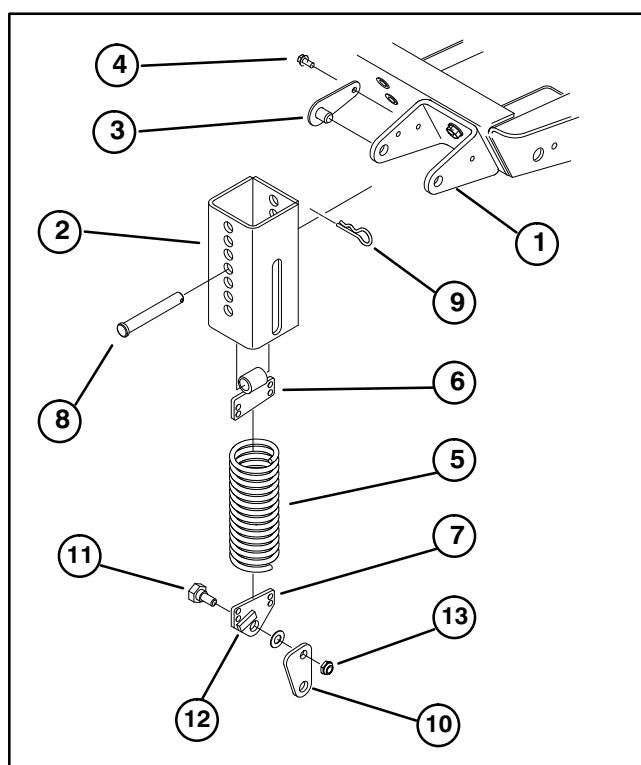

Figure 10
4. Thread the top extension spring coil into the top spring end holes and the bottom extension spring coil into the bottom spring end holes (Fig. 10).
5. Mount knee link to lower spring end with wide part of knee link pointing forward and spring end stop pointing forward. Secure knee link to outer side of spring end with a shoulder bolt, washer and locknut (Fig. 10, 11).
7. Align slotted holes in the spring cover (slot toward the bottom) with the mounting bracket holes. Insert lock pin assemblies into the bracket holes and secure each to the bracket with self-tapping screws (Fig. 10). Torque the screws to 20 ft-lb.
8. From the bottom, insert the spring and top spring end into the spring cover. Select a hole that matches the cutter deck height-of-cut setting; i.e., top cover hole matches the highest height setting, bottom cover hole the lowest, etc. Align the top spring end hole with the selected spring cover holes and insert the clevis pin to secure the spring inside the cover (Fig. 10). Secure clevis pin with a hair pin cotter.